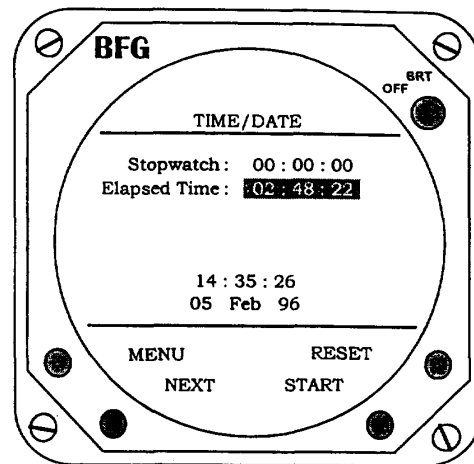

Figure 3B-155. Time/Date Mode
(4) *Time/Date Mode.* The TIME/DATE mode can be selected only from the main menu. The time/date mode menu displays four items: stopwatch, elapsed time, time of day, and day, month, and year. Refer to Figure 3B-155. When first selecting the time/date mode, the stopwatch digits will be highlighted. To use the stopwatch function, press the **START** button to start or stop. Pressing the **RESET** button will immediately reset the timer. To use the elapsed time feature, press the **NEXT** button to highlight the elapsed time digits and press the **START** button to start or stop the counter. Pressing the **RESET** button will reset the elapsed timer.